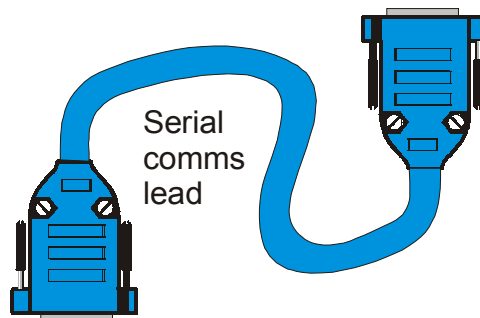

Figure 4: ccProgrammer serial comms cable
- 1 x 9 pin 'D' type cable - female to female. (see Figure 4).